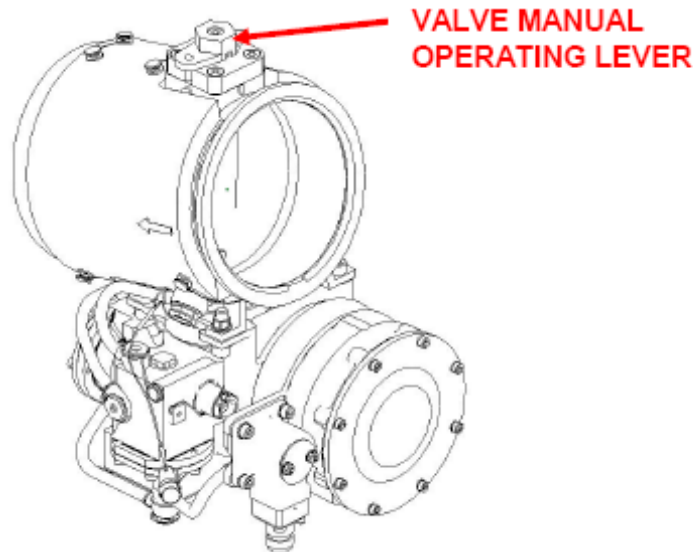

Figure 3:
- (2) Locate the valve manual-operating lever on the PRSOV, as shown in Figure 3.
- (3) Use a wrench on the valve manual operating lever nut to turn the valve butterfly to the fully open, and then fully closed position. Cycle the valve manually from the fully open to closed position 3 times.
- (4) Perform an operational test (AMM Task: 36-11-09-710-801) on the PRSOVs. If the APU BLEED DISABLE advisory message persists, then replace the valve.